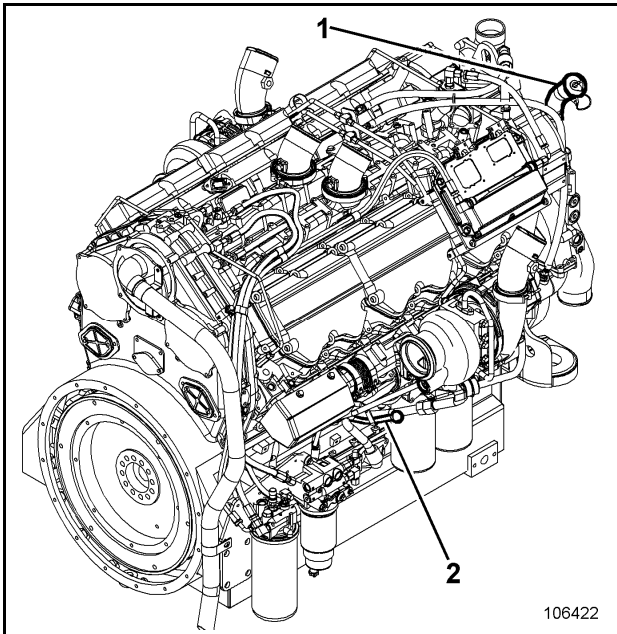
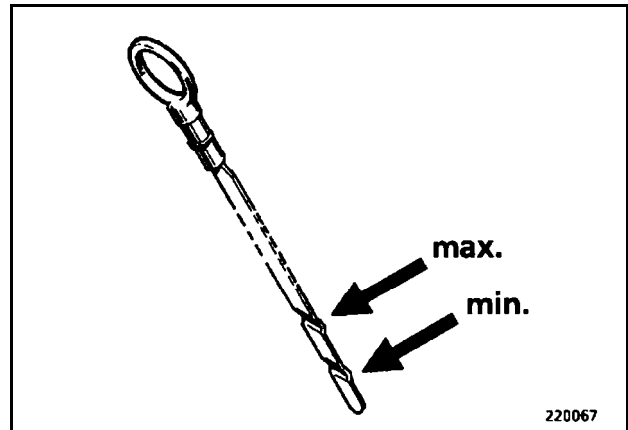

Fig. 3-17:
Fig. 3-18:
- Fill in engine oil through filler tube (1, Fig. 3-17:) until the oil level has reached the "max" mark (Fig. 3-18:) on dipstick (2, Fig. 3-17:).
until the oil level has reached the "max." mark (Fig. 3-18:) on dipstick (2, Fig. 3-17:).
- Check oil level at dipstick (2, Fig. 3-17:) and top up with oil to the "max" mark (Fig. 3-18:) if required.